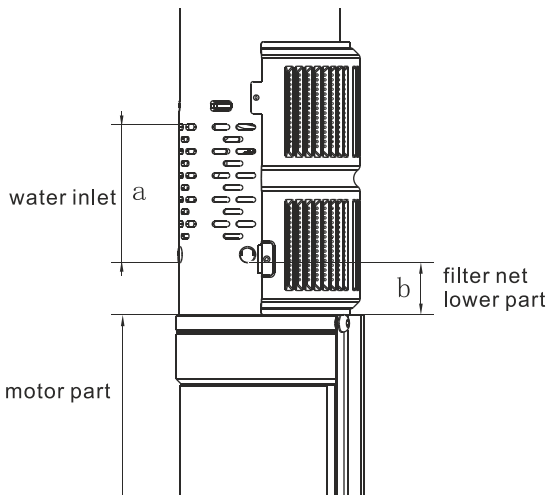

fig.4-7
2. Filter net cannot be installed to the part of motor, the installation instruction for lower end, see fig. 4-7 b.